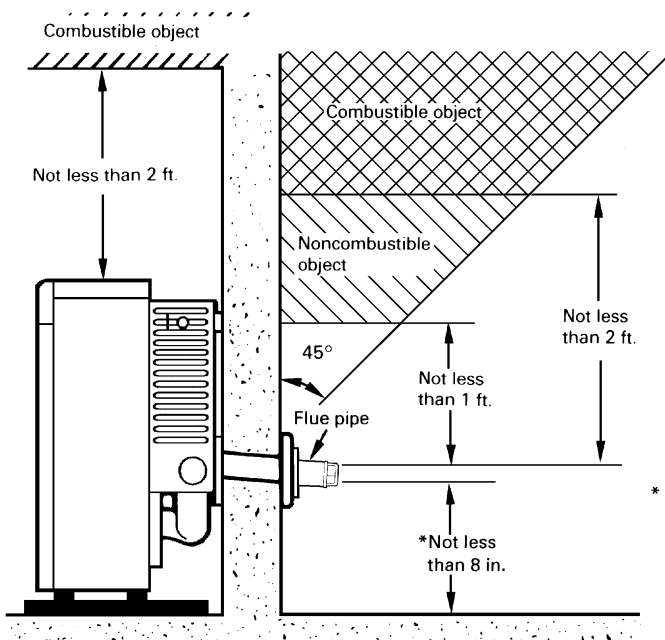

Fig. 2
①	Adjustable Exhaust Pipe Max. 39- ³ / ₈ ~ Min. 22- ⁷ / ₁₆	1
②	Intake Pipe (40 inch)	1
③	Insulating cloth cover (40 inch)	1
④	Pipe Holder	2
⑤	Pipe Support Hardware	2 sets
⑥	L-Shaped Exhaust Joint	1
When using the "Extension pipe (M)" extension kit, the distance between the heater exhaust pipe connection and the flue pipe connection must be at least 25-⁵/₈ inch but no more than 42-¹/₂ inch. (See Figure 2 for reference.)
2. Make sure that the outside area to where the standard flue pipe will reach is clear of any objects. (See Fig. 2 & 3)
CAUTION! The standard flue pipe installation, as shown in Fig. 2, is for wall thickness from 4 in. to 9 in. ONLY.